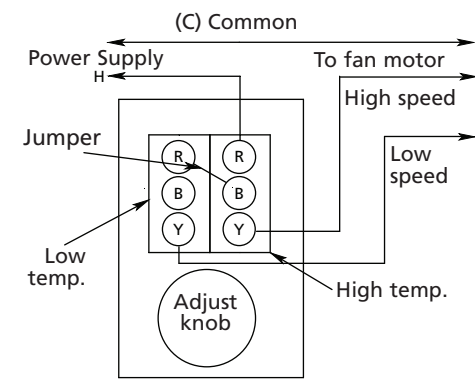
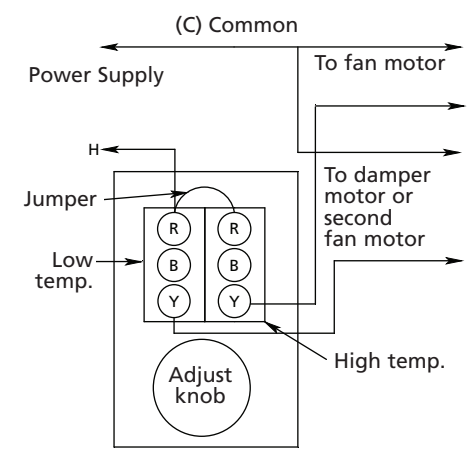

Figure 7 – Two-stage SPDT/SPDT Thermostats in Control of a Two-speed Ventilating Fan
Figure 8 – Two-stage SPDT/SPDT Thermostats in Control of a Single-speed Ventilating Fan and Volume Increase Damper Motor
Figure 7 shows wiring for controlling a two-speed ventilating fan. When the control element reaches the knob settings, the low temperature switch starts the fan on low speed. If the ambient temperature continues to rise, the high temperature switch supplies power to the high-speed motor winding while disconnecting the low-speed winding.
Figure 8 shows a typical SPDT/SPDT hook-up for a two-volume fan application. The damper motor will be energized when the temperature reaches the knob setting. If the temperature continues to rise, the fan motor will be energized by the high temperature switch.
- Thermostats with SPDT/SPDT 2 Stage switching: If connection is similar to Figure 7, fan should start at approximately ambient temperature and should change to high speed, as the knob is turned counterclockwise to a lower temperature setting. If wiring is similar to Figure 8, the damper should open as the knob is turned counterclockwise (to lower temperature setting). The devices should act in reverse sequence when the knob is turned clockwise.